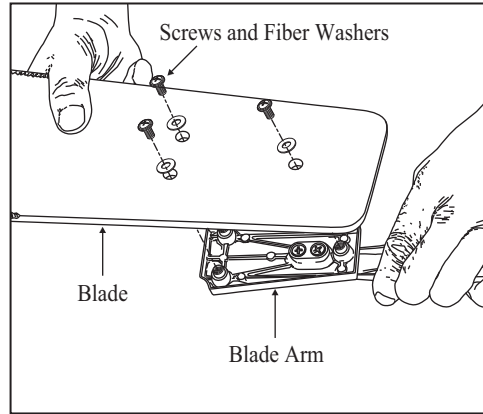

Figure 13
1. Attach blade to blade arm using the screws with fiber washers provided. (Fig. 13) Start a screw into the blade arm, do not tighten. Repeat for the 2 remaining screws and washers.